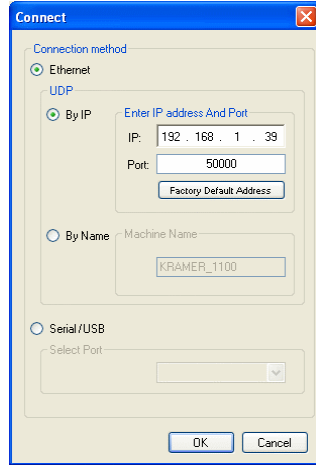

Figure 27: Connect Ethernet by IP
- To identify the device by specifying the IP address and port, click **BY IP** (see Figure 27), enter the IP address and port of the device and click **OK**